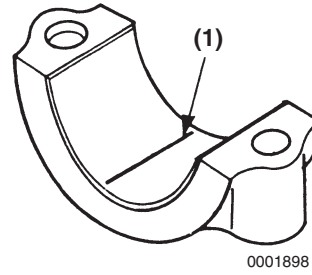

Figure 6-108
- (b) Place a piece of PLASTIGAGE (**Figure 6-108, (1)**) along the full width of each bearing insert.